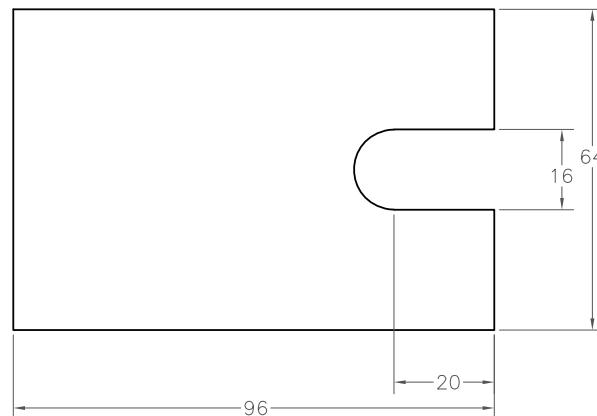

Figure 26-118 Base for the solid model
4. Switch on the ortho mode. Using lines and arc, create the base of the model with the dimensions shown in Figure 26-118.